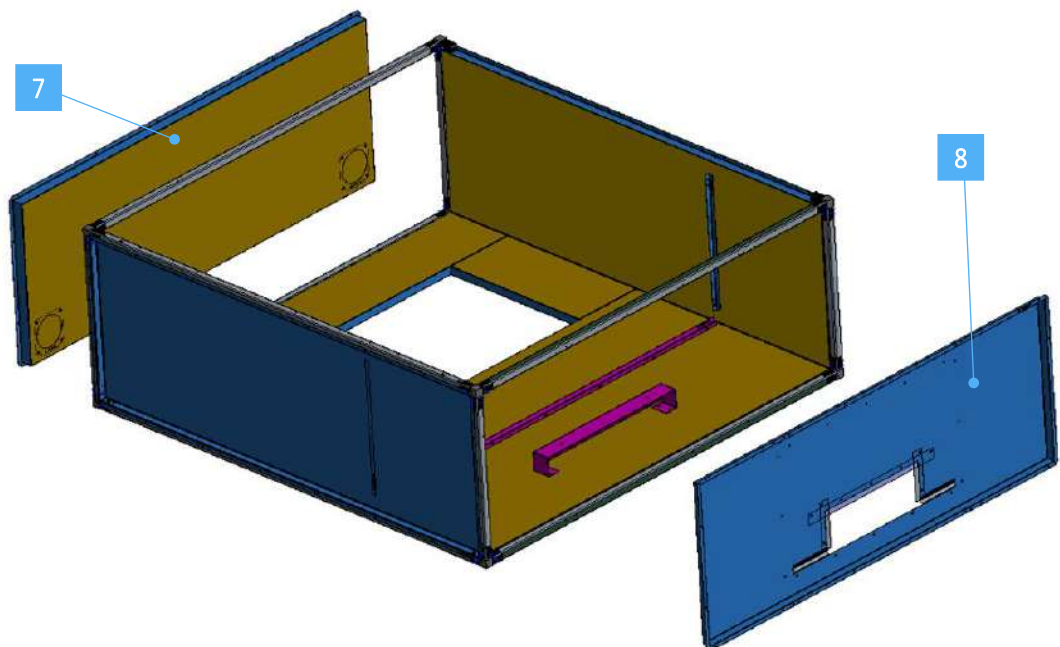

Fig. 9 *Rear and front panels assembly.*
- 6 Fix the support bars [10] (PN 73-00081-01) to the tubes [3] and to the light assembly [9] using the supplied M5 screws (figure 9), inside the lower face of the skeleton formed by the tubulars [1] and [2]. Fix it to the side tubes [2] and to the tubular [1] from the side of the panel [5] using the supplied screws.